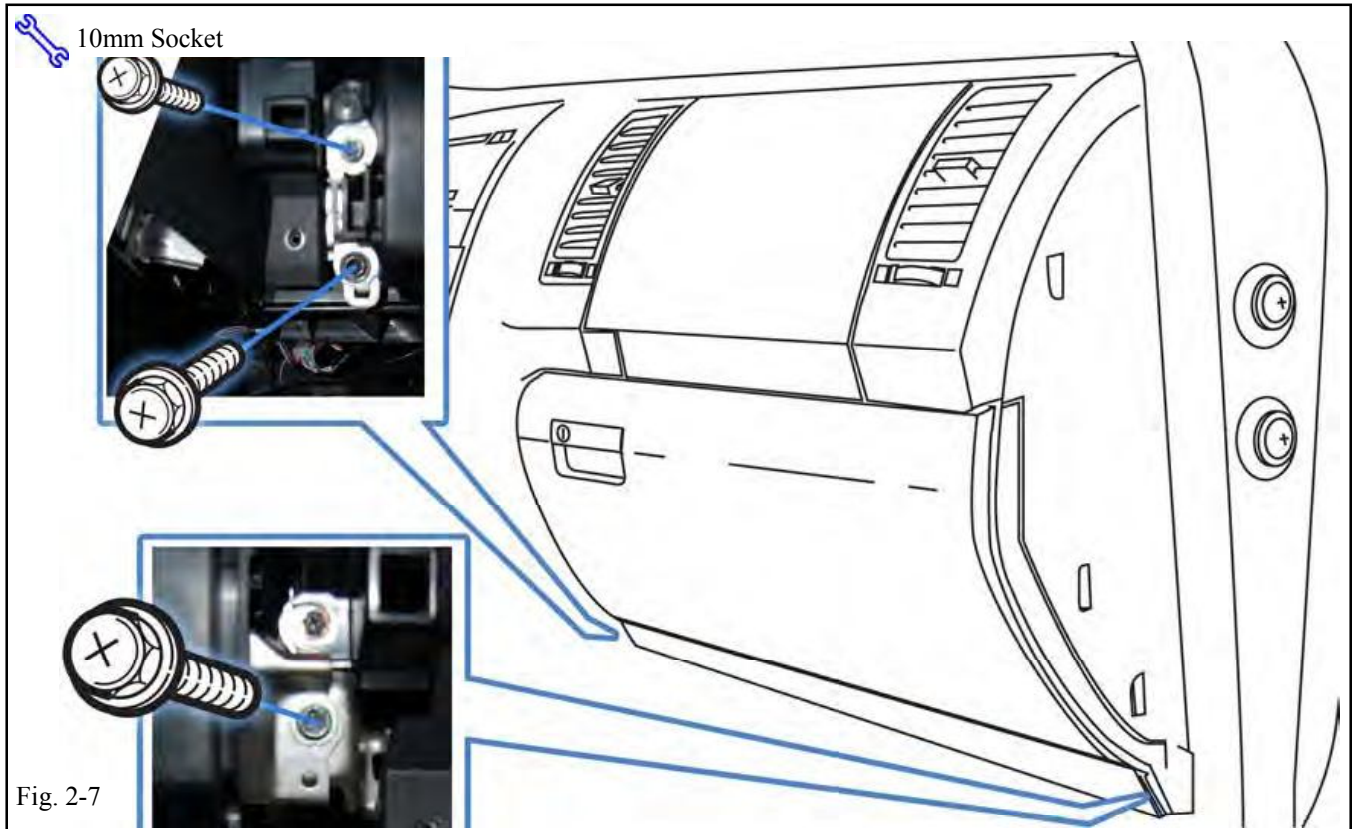
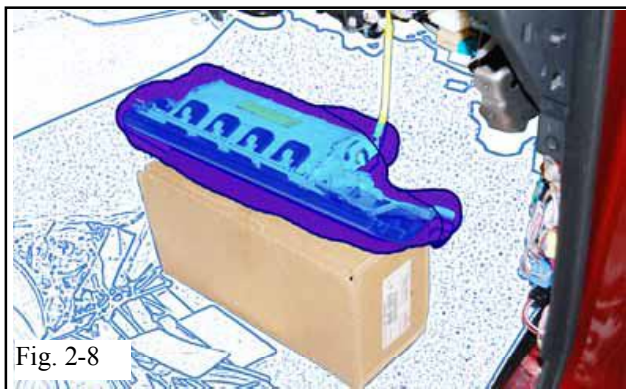

Fig. 2-7
Fig. 2-8
- (i) Dislodge the Passenger's Knee Airbag. (Fig. 2-7)
- (1) Remove 3 Bolts.
- (j) Wrap the Airbag in a blanket and place on a box to avoid tension on the harness. (Fig. 2-8)